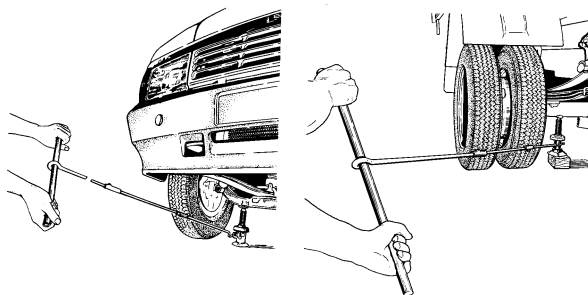

Fig. 9.11. **Vehicle Front and Rear Wheel Lifting**
- place the jack (Fig. 9.11) under front axle girder or rear axle next to the wheel in question. Rotate the jack handle to lift the vehicle so that the wheel